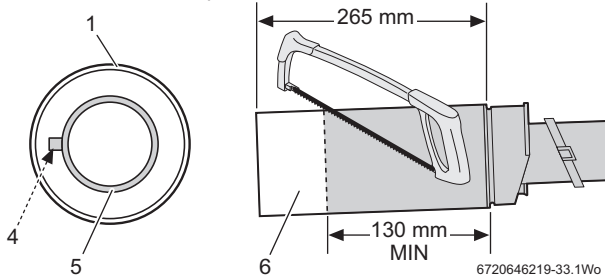

Fig. 28 Further reduction
1. Remove securing screws from horizontal flue connector (1) to detach the terminal assembly.
2. Slide terminal section (2) from the terminal assembly and discard.
3. To use terminal (3) without cutting, remove the location lug (4), figure 28 on the inner flue tube (5), figure 28 and remove any burrs.
- ▶ Mark the length required for the terminal as shown in figure 28 (min. 130mm) and cut square, taking care not to damage the tubes.